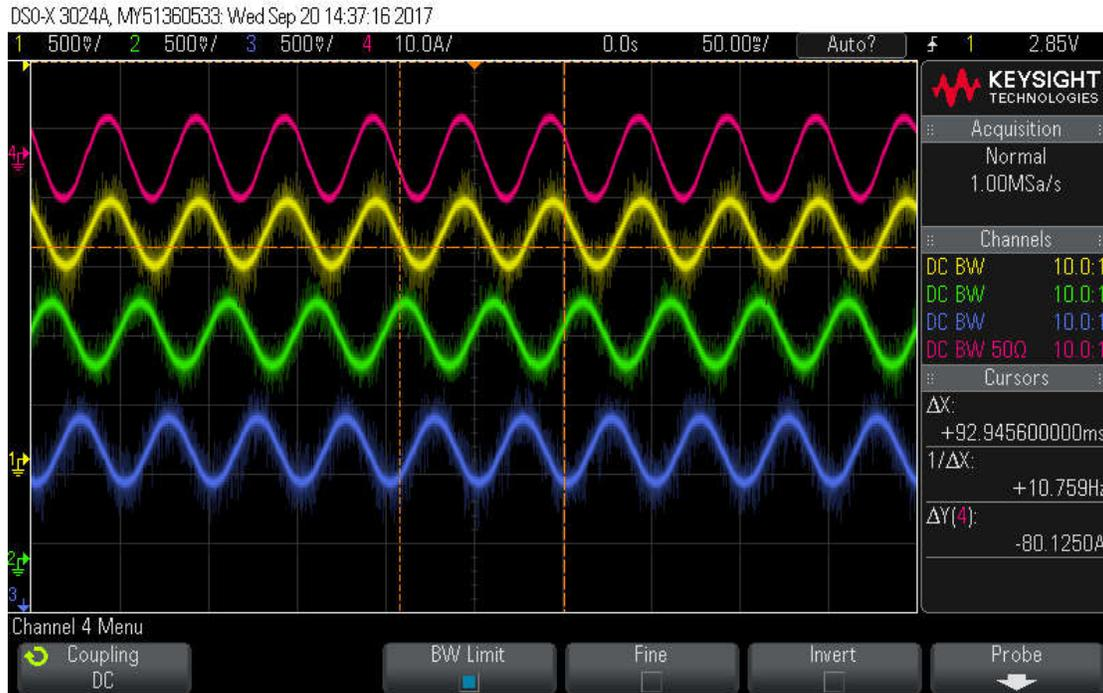

Figure 29: Three phase current samples and measured current via external current probe
Step 2b: Set the correct offset and gain for each PWMDAC channel as shown below. Please follow step 3a above to again connect the PWMDAC inputs to the variables to be monitored. Following these steps, the PWMDAC output waveform is as shown in **Figure 29**.